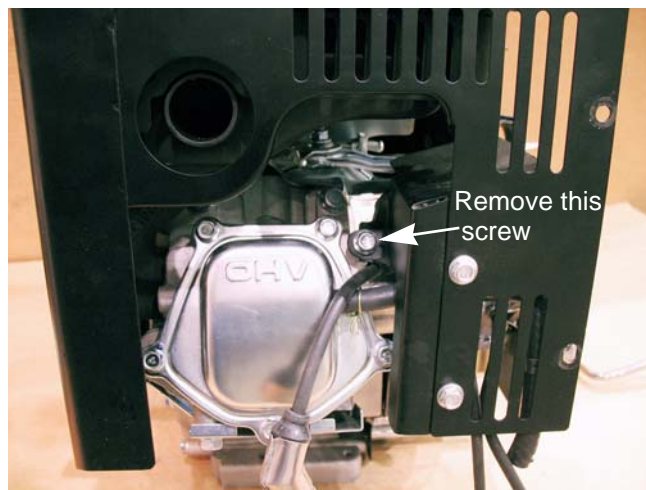

Figure 8.2
3. Remove the screw that holds the heat shield to the cylinder head using a 10 mm wrench. See Figure 8.2.